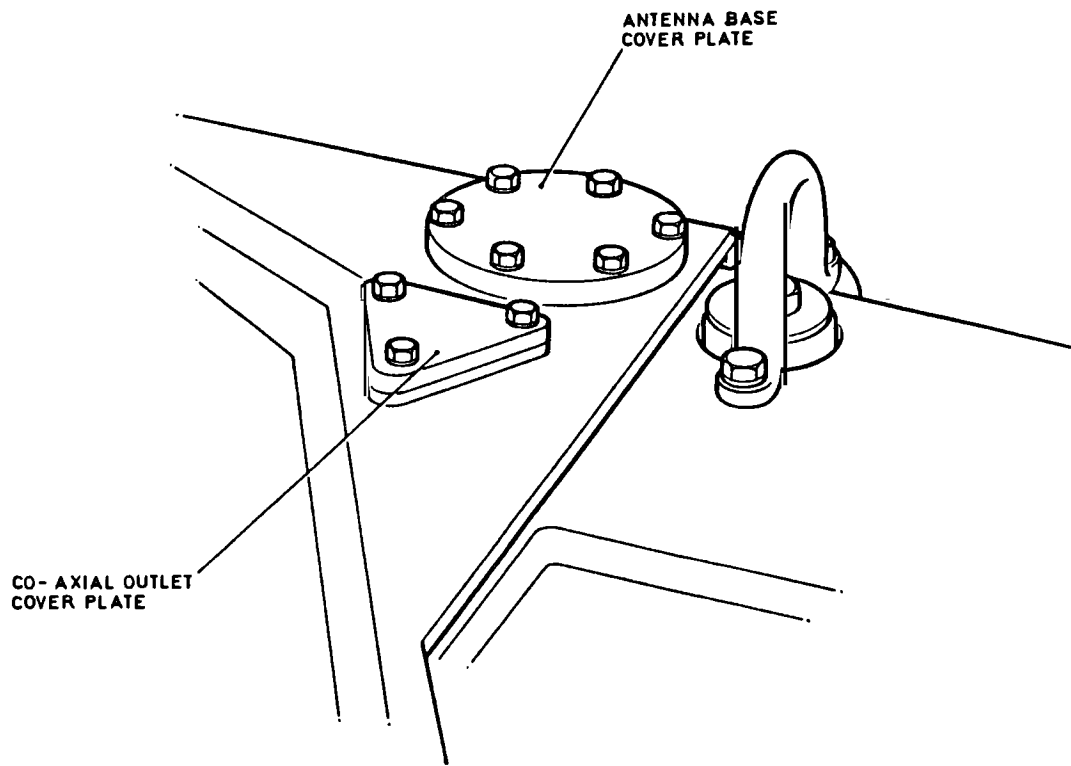

Fig 3 'A' set position antenna base and co-axial outlet cover plates diagram
13.2.4 Secure a cover plate (4) and a gasket (6) in the 'B' set position (Fig 3) using four screws (14) and washers (20 and 23).
13.3.4 Secure an antenna base cover plate (3) and a gasket (5) in the 'B' set position (Fig 3) using six screws (12) and washers (19) and (22).
13.4.1 Locate the plate four fixing holes in the internal forward l.h.s. (See Cat 302, Chap 1, Fig 3).